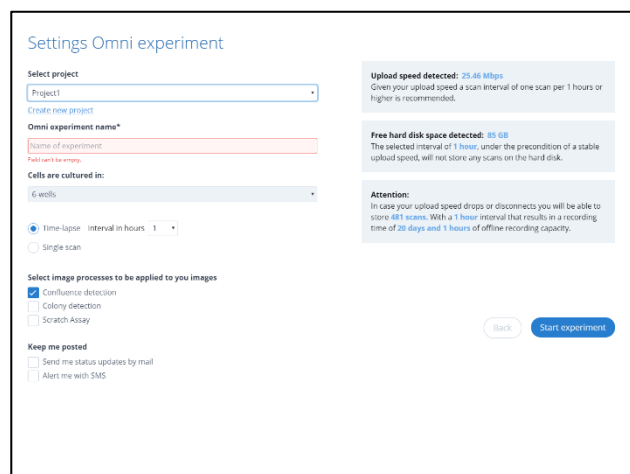

fig. 13. Set the experiment parameters in the “Settings Omni experiment” page.
3. Select a project from the drop-down list on the top left of the *Settings* page (fig. 13) or create a new project by selecting “Create a new project”.
5. Check whether the correct culture vessels is selected. In case you have selected the wrong type of culture vessel you can change this by going back to the *Experiment* page (fig. 13).
6. Subsequently select whether you want to perform time-lapse imaging or take a single scan. You can set the time interval of the time-lapse experiment using the drop-down menu (fig. 13).